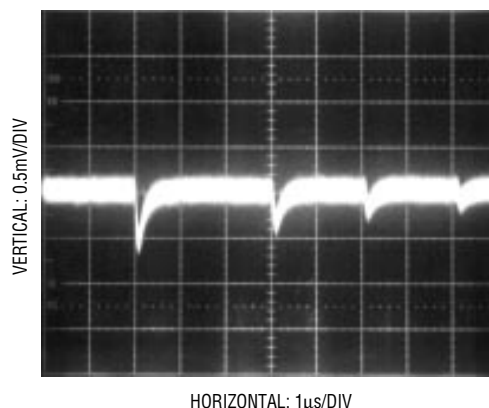

Figure 15. Adequate Reference Settling
1. Transients on the reference inputs caused by the capacitive switching currents must settle completely during each bit test (each 4 ACLK cycles). Figures 15 and 16 show examples of both adequate and poor settling. Using a slower ACLK will allow more time for the reference to settle. However, even at the maximum ACLK rate of 4MHz most references and op amps can be made to settle within the 1μs bit time. For example the LT1027 will settle adequately or with a 10μF bypass capacitor at REF+ the LT1021 can also be used.